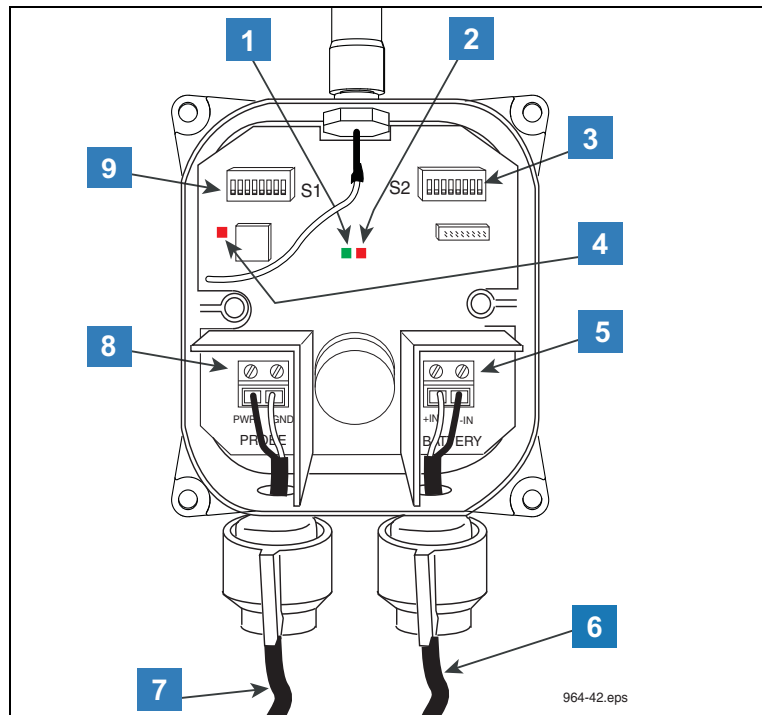

Figure 21. Wiring The Transmitter
5. All probe/sensor cables connect to the PROBE terminal block the SAME WAY - the white wire to the PWR terminal and the black wire to the GND terminal as shown in Figure 21.
8. Connect power cable wires to the BATTERY terminal block placing the white wire in the +IN terminal and the black wire in the -IN terminal as shown in Figure 21.
LEGEND FOR NUMBERED BOXES IN Figure 21